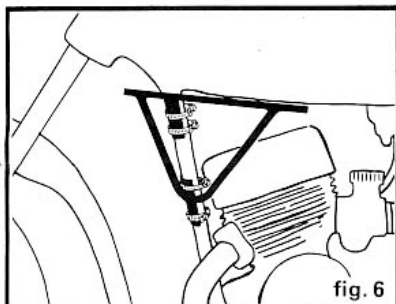

fig. 6
2. Secure the bracket loosely to the frame members with the mounting clamps - see figure 6.